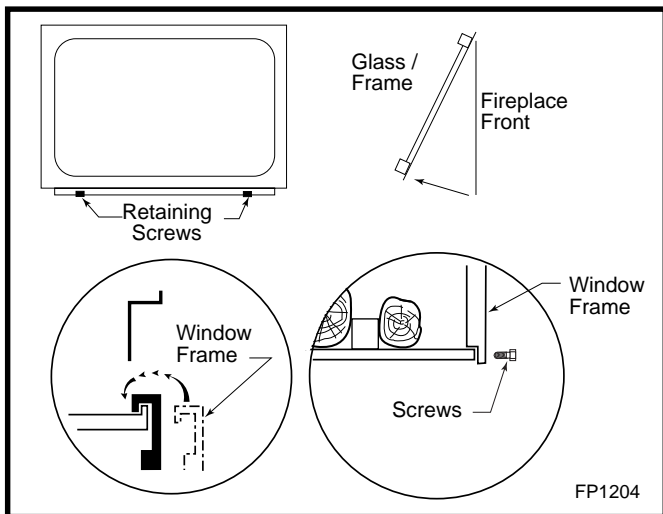

Fig. 6 Window frame assembly removal
5. Swing lower portion of door out from the fireplace and gently lift up to disengage top of door from fireplace (Fig. 6).